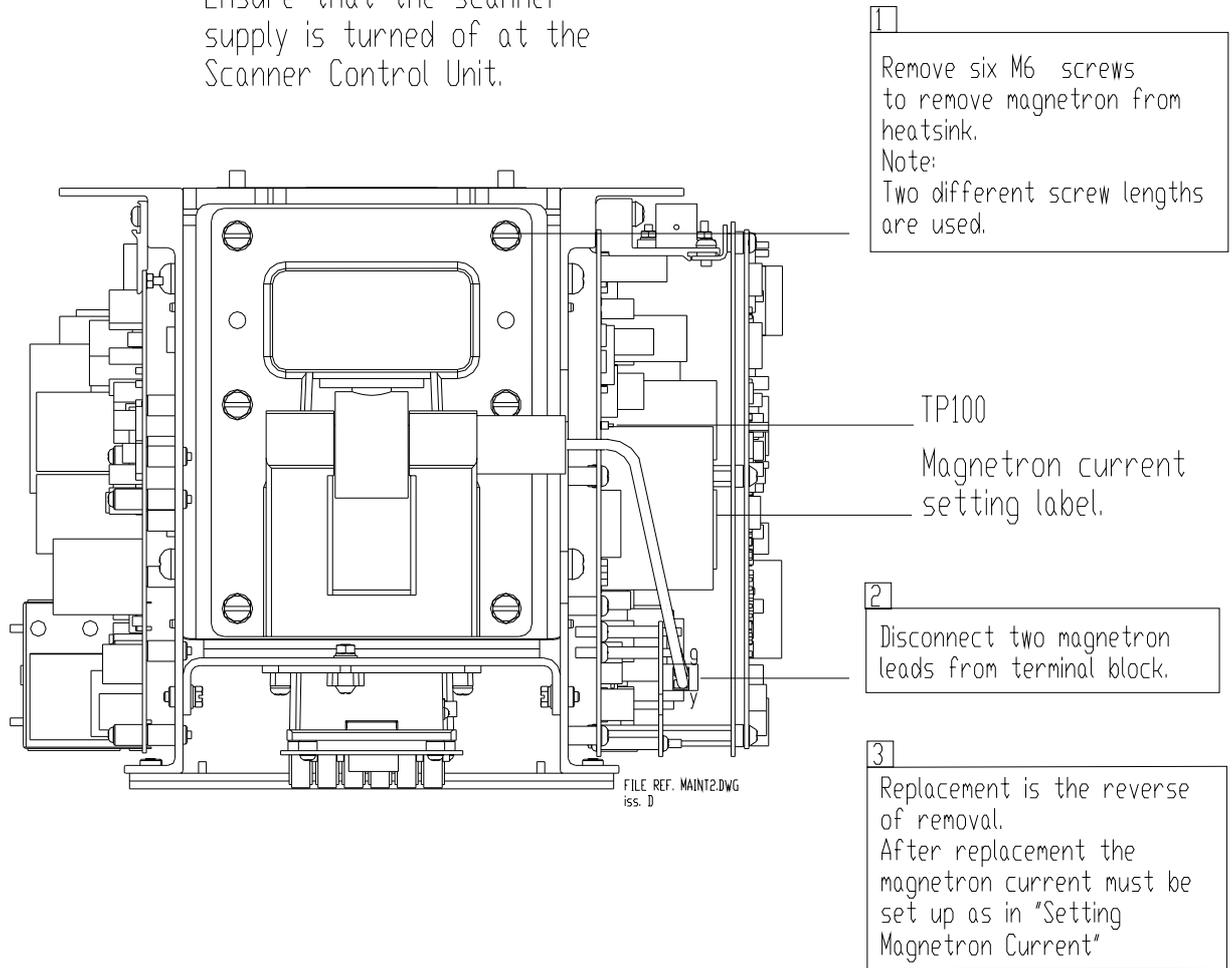

Figure 6.14. Magnetron Replacement
5. Refer to Figure 6.14, and follow the procedure for removing and replacing the magnetron.
3. Refer to Figure 6.14, and follow the procedure for removing and replacing the magnetron.